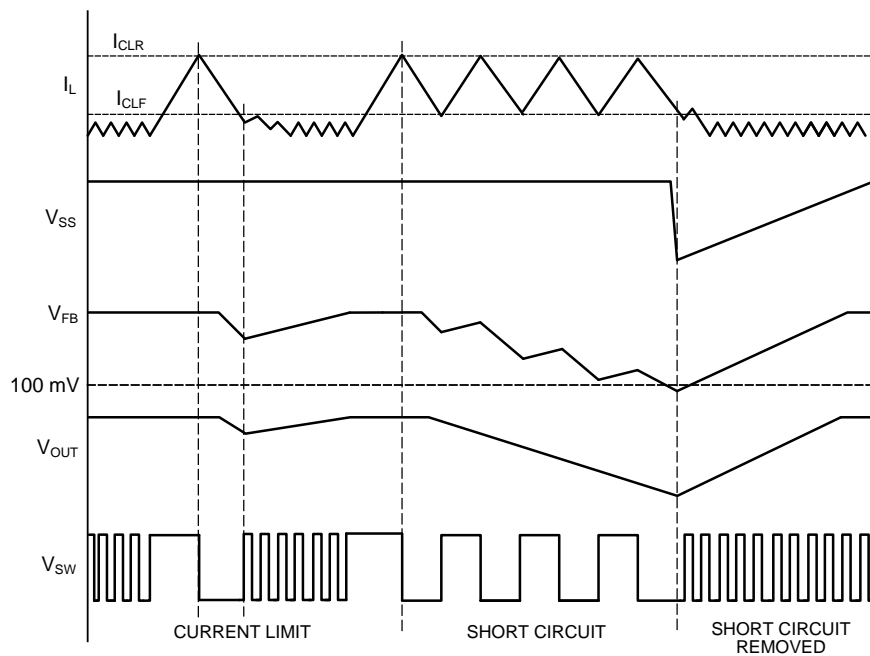

Figure 26. Current Limit Conditions
A current limit condition causes the internal soft-start voltage to ramp downward. After the internal soft-start ramps below the feedback (FB) voltage, nominally 0.6 V, FB begins to ramp downward, as well. This voltage foldback limits the power consumption in the device during a sustained overload. After the current limit condition is cleared, the internal soft-start voltage ramps up again. Figure 26 describes current limit behavior including V_{SS} , V_{FB} , V_{OUT} and V_{SW} waveforms.